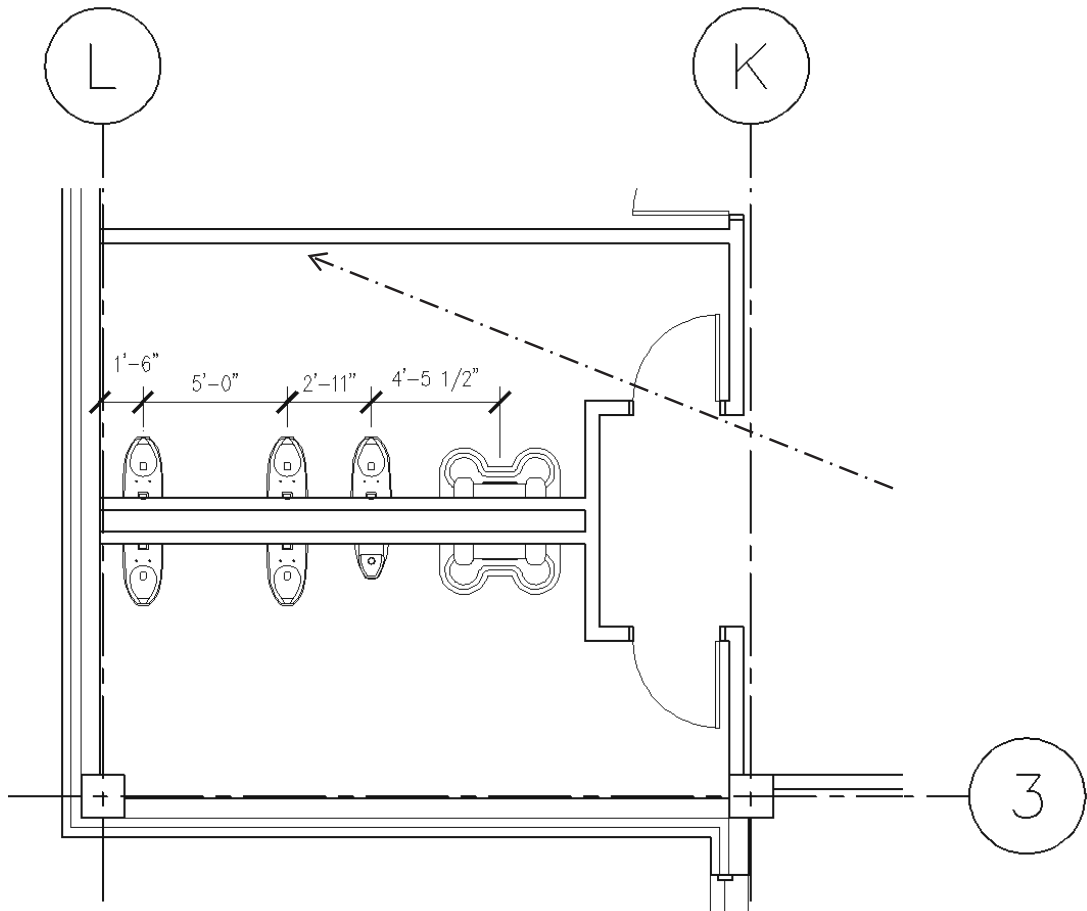

FIGURE 4-1.7 Place the fixtures shown; dashed line shows sightline
15. Insert the plumbing fixtures as shown in Figure 4-1.7, *plus*:
Sight-lines are typically explored by drawing a line from the adjacent hallway (or space), through the door opening, into the toilet room. Looking at Figure 4-1.7 you can see the sight-lines are quite acceptable. As previously mentioned, this design solution takes up a fair amount of floor space but is necessary.